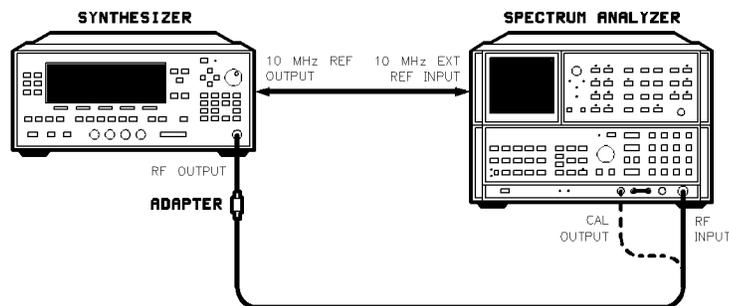

Figure 3-34. Square Wave Symmetry Adjustment Setup
1. Connect the equipment as shown in Figure 3-34. Preset both instruments and let them warm up for at least one hour.